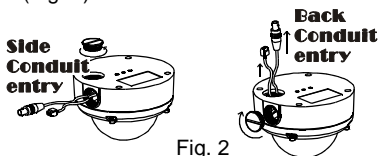

Fig. 2
2. The unit has a factory installed side conduit entry and one may adjust the cables to back conduit entry according to installation requirement (Fig. 2).